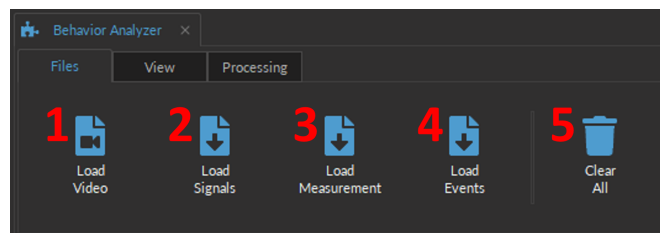
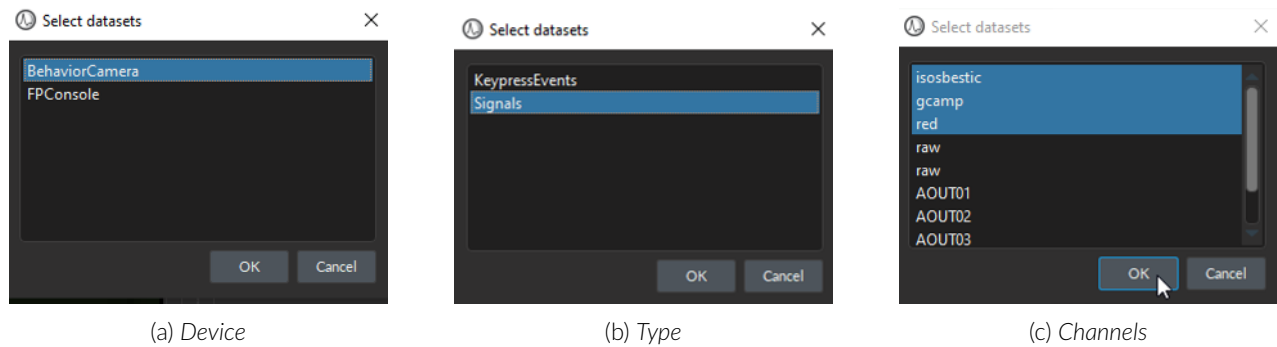

Figure 11.3: Behavior Analyzer, Files tab
Figure 11.4: Select Datasets
The **File** tab (Fig. 11.3) is primarily used to load and save the data. The following details the specific features of each button, as per Fig. 11.3:
1. The **Load Video** button (Fig. 11.3, 1) will open File Explorer window where users can select any saved video that are in either .avi or .mp4 format. This does NOT necessarily need to be video data recorded with *Doric Neuroscience Studio*. Note that a warning will pop up if Video and Signal data are not the same lengths since this could affect data alignment.
2. The **Load Signals** button (Fig. 11.3, 2) opens a File Selection Window where users can select the .doric file of a previous recording and import it into the module. The file must contain both time and signal data. Once the file is selected, a **Select Dataset** window will pop up (Fig. 11.4), allowing user to specify which device (Fig. 11.4a), signal type (Fig. 11.4b), and the channels (Fig. 11.4c) to include for data processing. Only the selected channels will be displayed within the **Signal View**. Multiple channels can be selected at once.
3. The **Load Measurement** button (Fig. 11.3, 3) allows users to import previous measurements (Animal Tracking or Motion Score) from a .doric file into **Signal View**. Data will be pulled from *DataBehavior/Measurement* folder within .doric file.
4. The **Load Events** (Fig. 11.3, 4) allows users to display **Keypress Events** from the a .doric file and overlay it on the signal data in **Signal View** as vertical lines, at the appropriate time points. Select **KeyPressEvents** within the **Select Dataset** window (Fig. 11.4b) to import them into the module.
5. The **Clear all** button (Fig. 11.3, 5) deletes all data currently loaded in the module. This data cannot be recovered, so ensure the data is properly saved before clearing it.
- d) The **Event indicators** (Fig. 13.44, d) are the overlayed **Keypress Events**, which can be imported using the **Load Events** button (Fig. 11.3, 3).